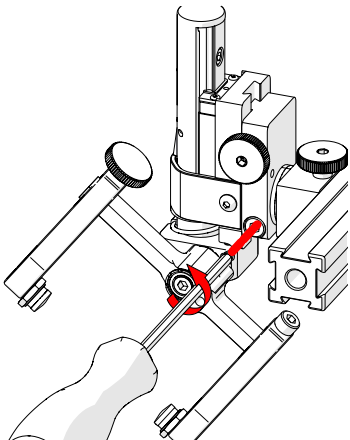

Fig. 125 - Loosen 3 mm screw
2. Using the supplied 3 mm hex driver (*Fig. 24*), loosen the longitudinal adjustment screw (*Fig. 125*).